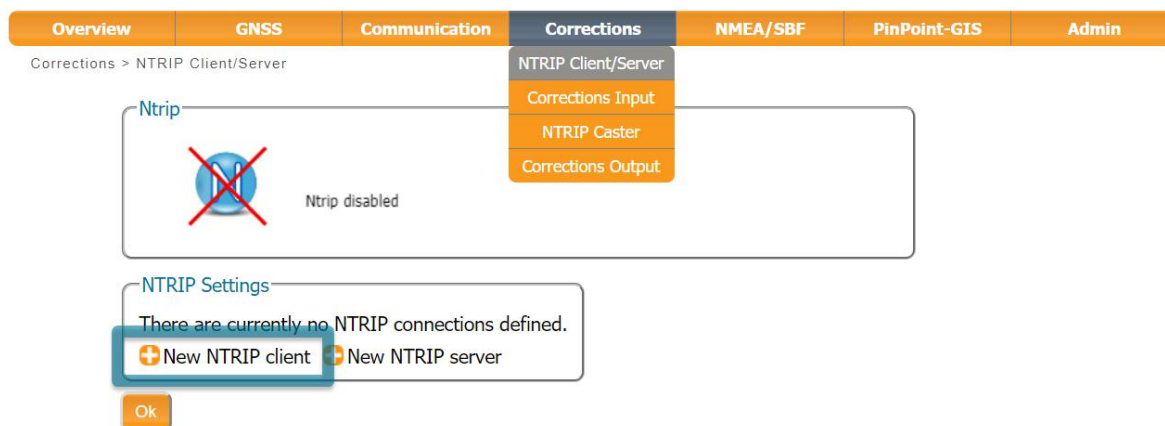

Figure 4-4: NTRIP tab of the Web Interface
2. On the **Corrections/NTRIP** window, click on **New NTRIP client** as shown in Figure 4-4